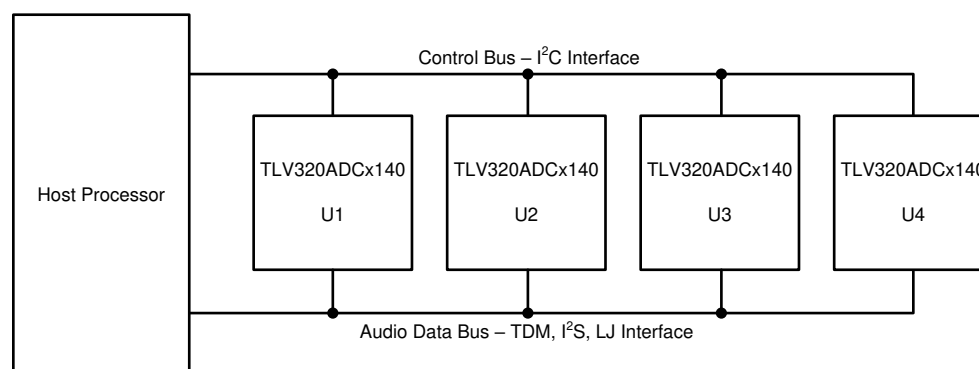

Figure 1. Four TLV320ADCx140 Devices With Shared Control and Audio Data Buses
For TLV320ADCx140 applications requiring more than four channels, multiple TLV320ADCx140 devices can share a common bus. For systems with up to 16 analog input channels or up to 32 digital microphone inputs, up to four TLV320ADCx140 devices can share a single control and audio data bus to minimize board routing area. TLV320ADCx140 supports a control bus using the I²C interface and an audio serial bus using a time-division multiplexed (TDM), Inter-IC Sound (I²S), or Left-justified (LJ) interface. Figure 1 shows a diagram of four TLV320ADCx140 devices sharing the control and audio data buses.
For proper operation of the audio bus in TDM mode, the number of bit clocks per frame must be greater than or equal to the number of active output channels times the programmed word length of the output channel data, as shown in Equation 1. For the example shown in Figure 1 with four devices, each with four channels, at a 48-KHz sampling rate and 32-bit word length, $BCLK \geq 4 \times 4 \times 48\,000 \times 32 = 24.576$ MHz. Since the maximum supported BCLK is 25 MHz, the maximum number of devices is dependent on the number of channels used, sample rate, and word length that maintains a bit clock (BCLK) under 25 MHz.